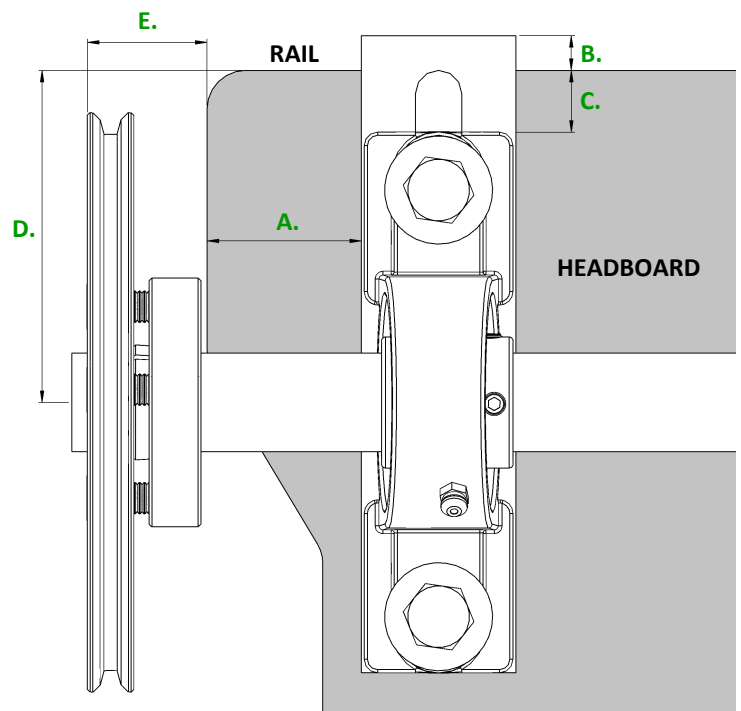

Figure 1: Placement diagram for front shaft and outer bearing(s)
1. The first two shaft bearings should be placed between 10mm & 30 mm (**Figure 1 A**) in from the outside edges of the headboard (driver and passenger sides). Vertical Position of the bearing and packer for a standard 150 mm wire pulley are as follows:
- i. The top of the RHS packer should be 9 mm above the sliding surface (**Figure 1 B**). This allows for future conversion to 100 mm wire pulleys if tarp configuration is changed.
- ii. The top off the bearing pillow block should be 16 mm below the sliding surface (**Figure 1 C**).
- iii. Final shaft position should be 86 mm down from the sliding surface (**Figure 1 D**) and 75 mm out from the headboard in this standard configuration.
3. For the smaller 100 mm pulley, the bearing pillow block should be level with the top of the packer. This places the shaft centreline (**Figure 1 D**) 61 mm down from the combing rail/sliding surface.
Rail (**Figure 1 E**). During this step, check that the shaft is straight and parallel to the headboard. The cap head socket screws are then evenly torqued to 25 ft. Lbs.